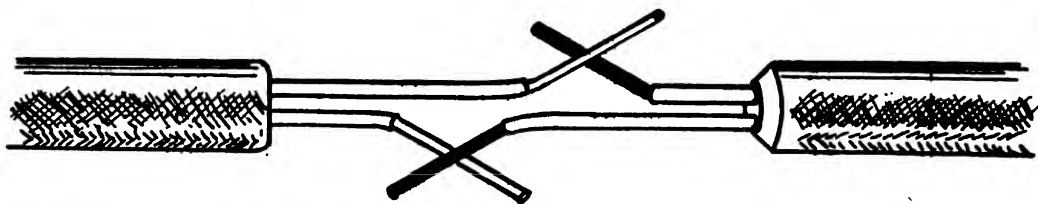

FIGURE 43.—Staggering the twin conductor splice.
*c.* When twin conductors are spliced one wire should be cut longer than the other so the two splices can be staggered. This keeps the splice from being so bulky when it is taped. (See fig. 43.)